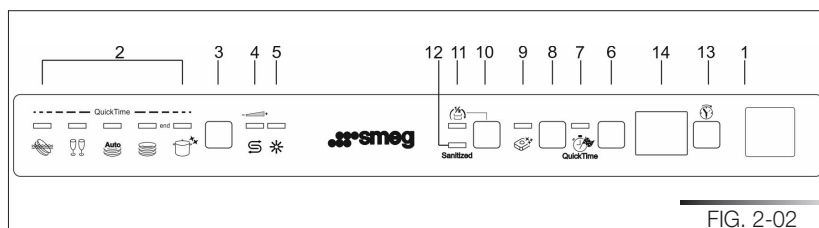

FIG. 2-02
The dishwasher is equipped with a control panel (see fig. 2-02) which is used to program the appliance and switch it on and off.
To run programmes **6, 7, 8, 9, 10**, select the required standard programme and then press the **quick time option button** (ref. 6 fig. 2-02).
Press the on/off button (ref. 1 fig. 2-02) to start the dishwasher. Then wait for one of the **program indicator lights** to turn on (ref. 2 fig. 2-02).
- Press the **program selection button** (ref. 3 fig. 2-02) several times until the indicator light corresponding to the required program turns on (ref. 2 fig. 2-02);
- To cancel the current program, open the door and press and hold down the **program selection** button (ref. 3 fig. 2-02) for a few seconds until the indicator lights of the fourth and fifth programs turn on (ref. pr. 4, pr. 5 fig. 2-03).
The “**Program delay**” function delays the beginning of the washing program up to 24 hours from the moment in which programming takes place. This makes it possible to use the dishwasher at a certain time of day. Before programming a delay, open the door of the dishwasher, select the required washing program (see para 2.2 “Setting the washing program and switching on and off”). Select the day by pressing the **Program delay** button (ref. 11 fig. 2-02); each time you press the button, the display increases the delay before the appliance starts by **1 hour**.
At the end of the program, the dishwasher emits a short beep and the **indicator lights of the fourth and fifth program** (ref. pr. 4, pr. 5 fig. 2-04) flash. Turn off the appliance by opening the door and pressing the **on/off button** (ref. 1 fig. 2-02).